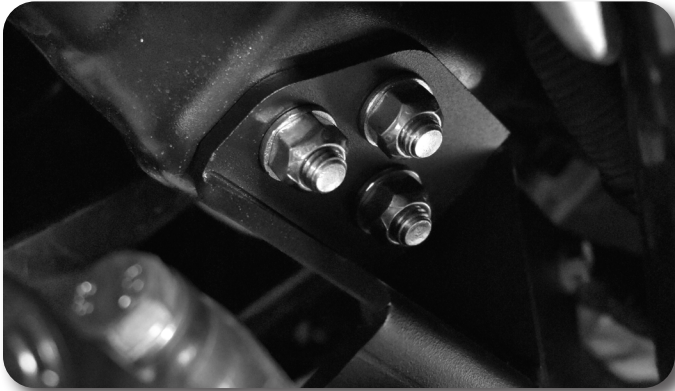

Figure 33
57. For 2025 trucks equipped with 3.6L V6 Pentastar engines. Install the driver's side rear differential drop bracket to the OE mount location with three 1/2" x 1-1/2" bolts and 1/2" SAE washers. Figure 33 The bracket will have the gusset plate towards the front of the vehicle. Leave hardware loose.